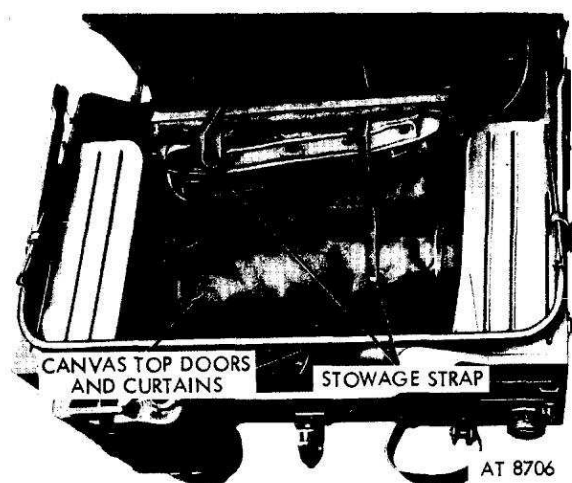
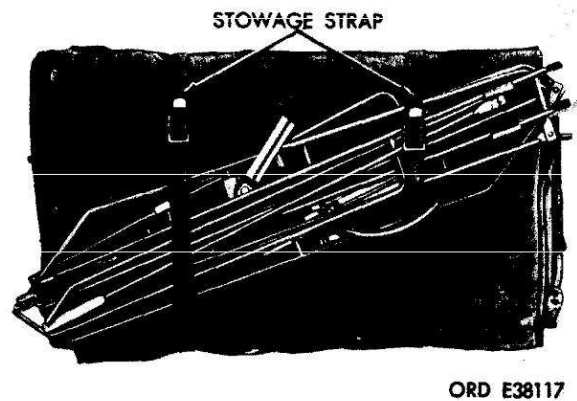

Figure 2-18. Stowage disassembly.
Figure 2-28. Stowing the top.
d. Fold the back of the rear seat assembly forward. Remove two retaining pins and lift the whole seat assembly out of its support brackets and lay it on the floor. Unbuckle the stowage straps and remove the stowed canvas. The package is illustrated in figure 2-28 for older model vehicles. The canvas top is the largest single item in the package. Lay it aside temporarily.
n. Canvas enclosures, tops and all supporting rods for M151 and M151A1 vehicles are stowed under the rear seat as illustrated by figure 2-18 and described above. To stow the top, disassemble it by using the steps above in reverse order. Lay the rear seat on a flat surface, bottom side up. Fold canvas parts to the size of the seat bottom. When enclosure windows are stowed, keep them inside and avoid sharp folds. Lay folded parts on seat bottom. Fold all joints in supporting rods and stow on top of the canvas parts, corner to corner. Secure the assembly with stowage straps, (fig 2-28) stow under rear seat position and replace rear seat.